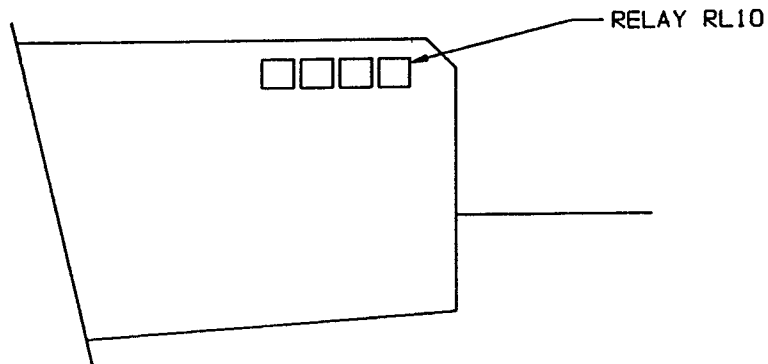

Figure 2
- 5.2.8) Mount TSU1 (trim switch unit 1) by picking up the top mounting hole from where relay RL10 was mounted (See Figure 2). Locate TSU1 on the outside of the seat structure with the unit facing fore and aft (NOTE: Wires point aft). Drill the second mounting hole with a #29 drill.